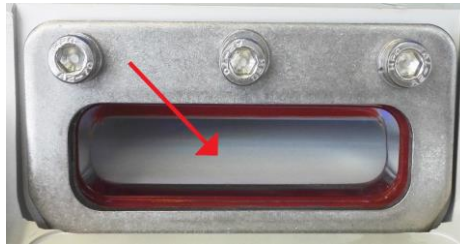

Figure 19 - Prism Cleaning
- clean the prisms surfaces (Figure 19 - n°1) with non abrasive glass product